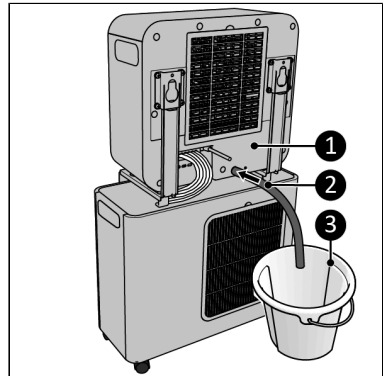

Figure 36.
7. Connect the condensed water drainage hose (Figure 36, pos. 2) to the back of the indoor unit (Figure 36, pos. 1).
8. Guide the condensed water drainage hose (Figure 36, pos. 2) into a bucket (Figure 36, pos. 3).
2. The condensed water drainage hose (Figure 36, pos. 2) must be connected to the back of the indoor unit and be guided into a bucket (Figure 36, pos. 3).